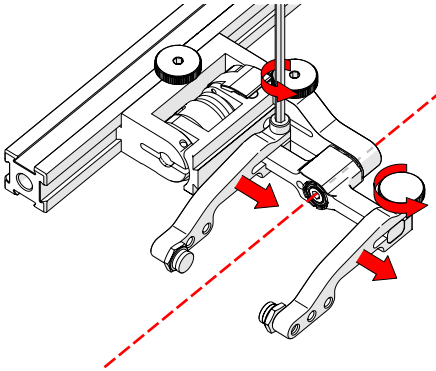

Fig. 48 - Adjust probe holder arms
- Loosen the arm clamp screw and the probe holder arm adjustment knob (Fig. 48) and remove the outer probe holder arm from the yoke.
- Adjust the inner probe holder arm to best centre the probe on the yoke's pivot axis (Fig. 48).